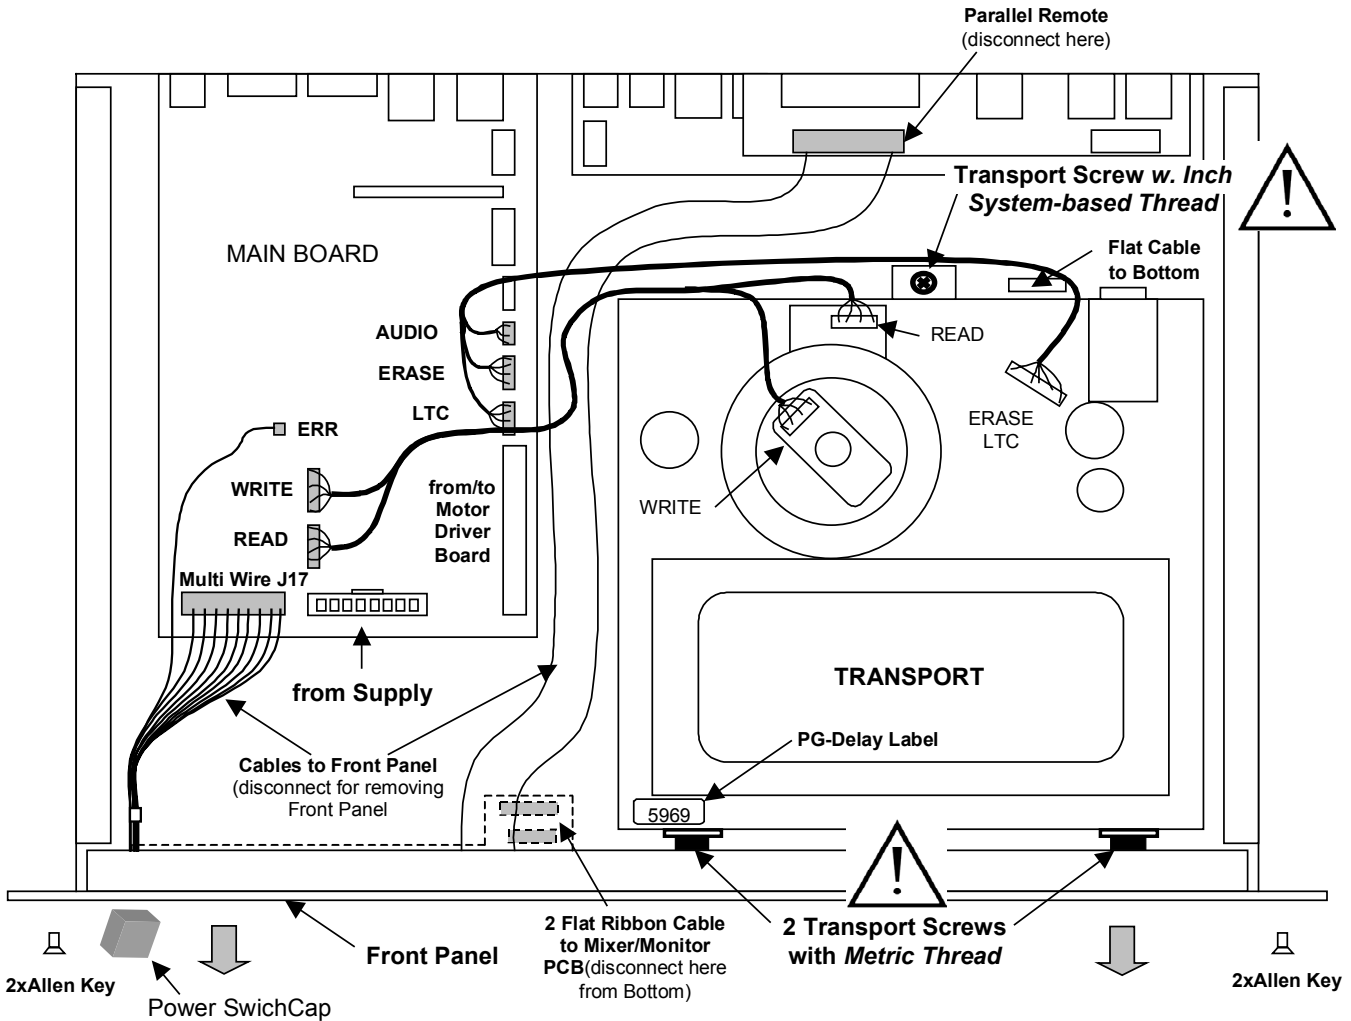

Fig.1 – Cable and connector locations, top view
- Unplug the following cables from the Main Board to the tape transport (top side, see fig. 1):
- All necessary connectors are unplugged now. Unscrew the transport (two Allen-key screws accessible from the front panel side, and one Phillips screw from the top), see fig. 1.
- Install the new transport carefully. *Please note that the two front screws have a metric thread, the one at the rear side, however, has a thread based on the Inch System (refer to fig. 1).* Apply a drop of Loctite® 243 (blue) to each of the three transport screws before tightening them.
- Reconnect all cables; refer to figs. 1 and 2. *Important: The READ and WRITE connectors must not be confused when connecting!*